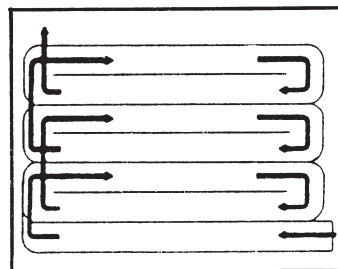

FIG. 7
- Where possible, we recommend tilling in a pattern similar to that shown in Fig. 7. Make the first pass, then skip a space equal to the width of the tiller, and make the return pass. Then till the skipped area. Tilling in this pattern will enable you to maintain better control. If the passes were made side-by-side, the tractor and tiller would tend to pull toward the tilled (soft) side.